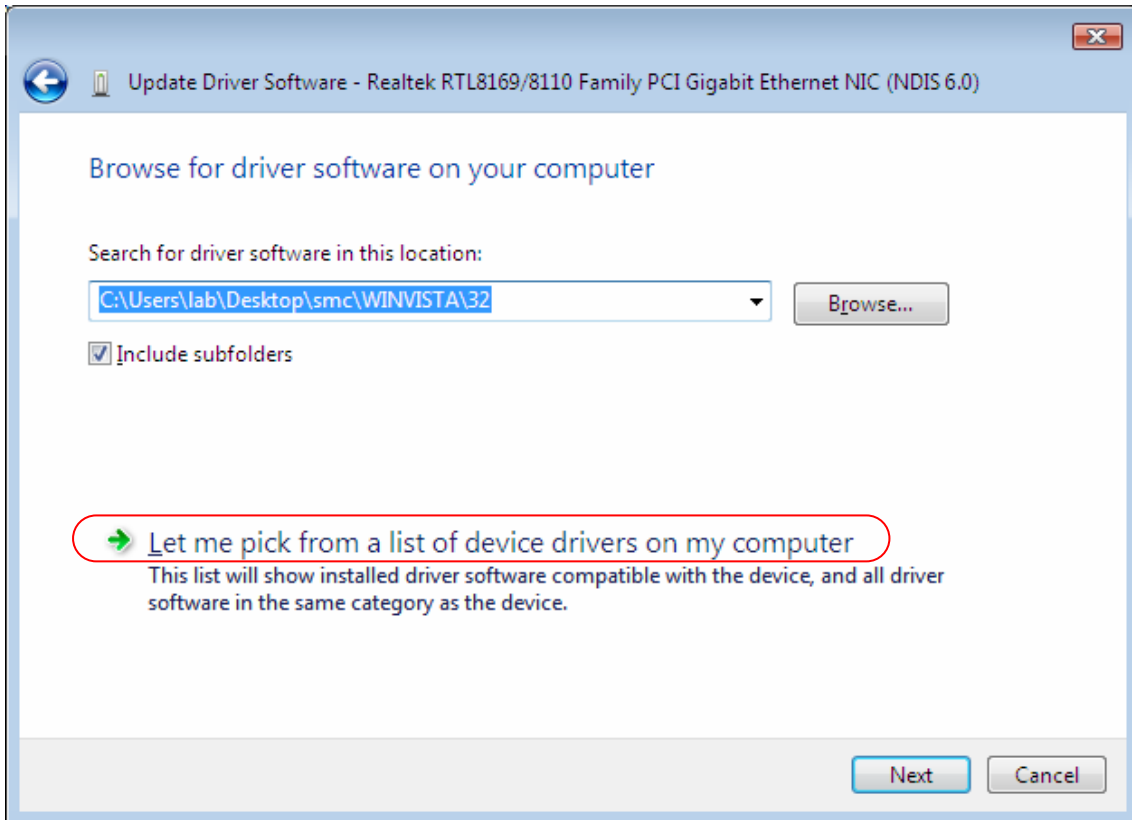

Figure 2-23
step 6. Click “Have Disk...” in the next screen (shown in Figure 2-23).